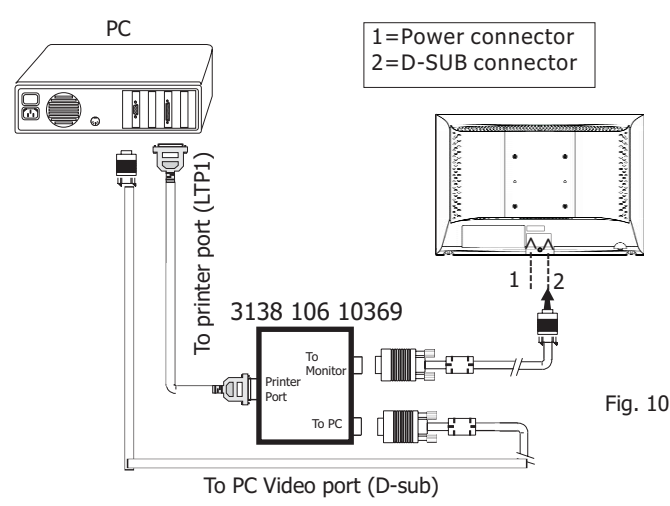

Fig. 10
Step 1: After initialize alignment box, connecting all cables and box as shown in Fig. 10